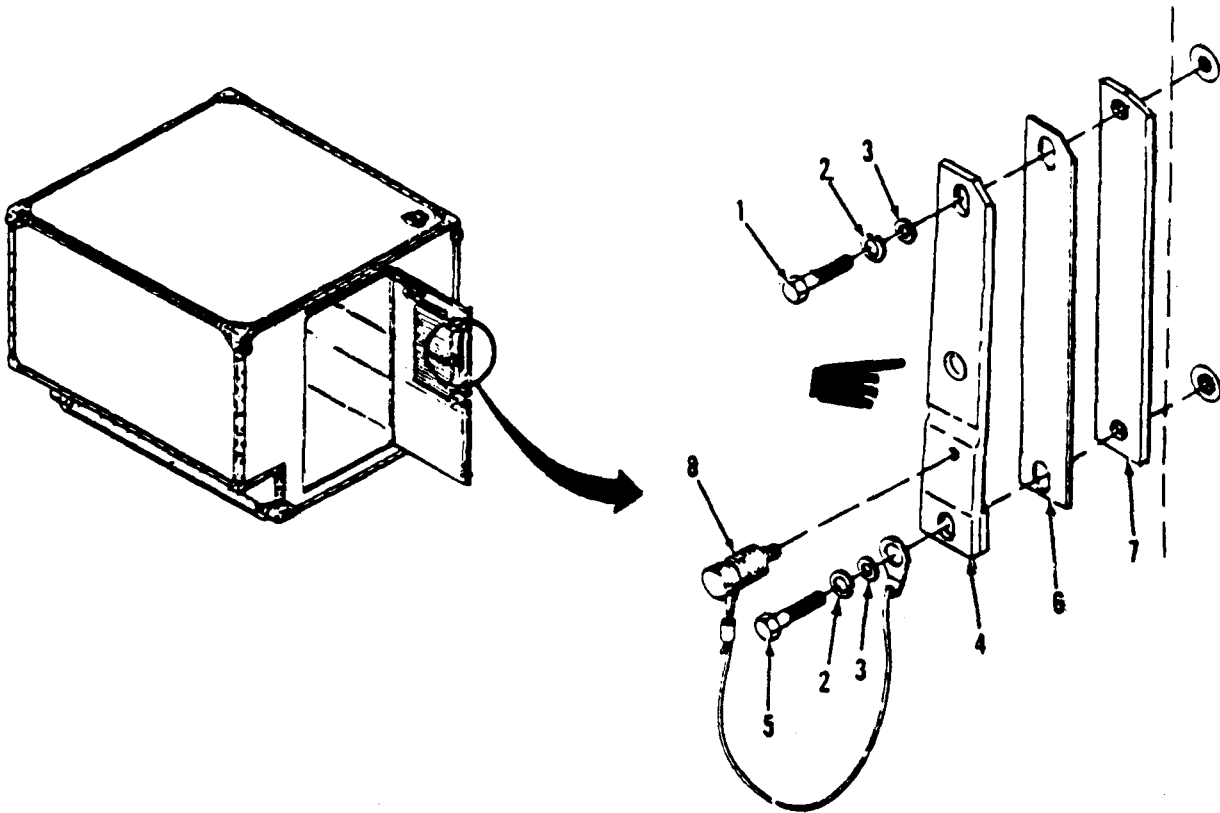

Figure 3-22. Keeper Assembly Replacement.
a. Inspect. (Figure 3-22)
- (1) Inspect for wear and other physical damage.
- (2) Inspect for secure mounting.
- (3) Inspect latch lock assembly (8) for wear or damage.
b. Replace. (Figure 3-22)